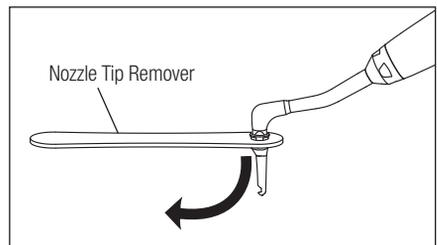

Fig. 7
- 5) After treatment, remove the Nozzle Tip from the Perio Mate Handpiece using the Nozzle Tip Remover and dispose of it. (Fig. 7)